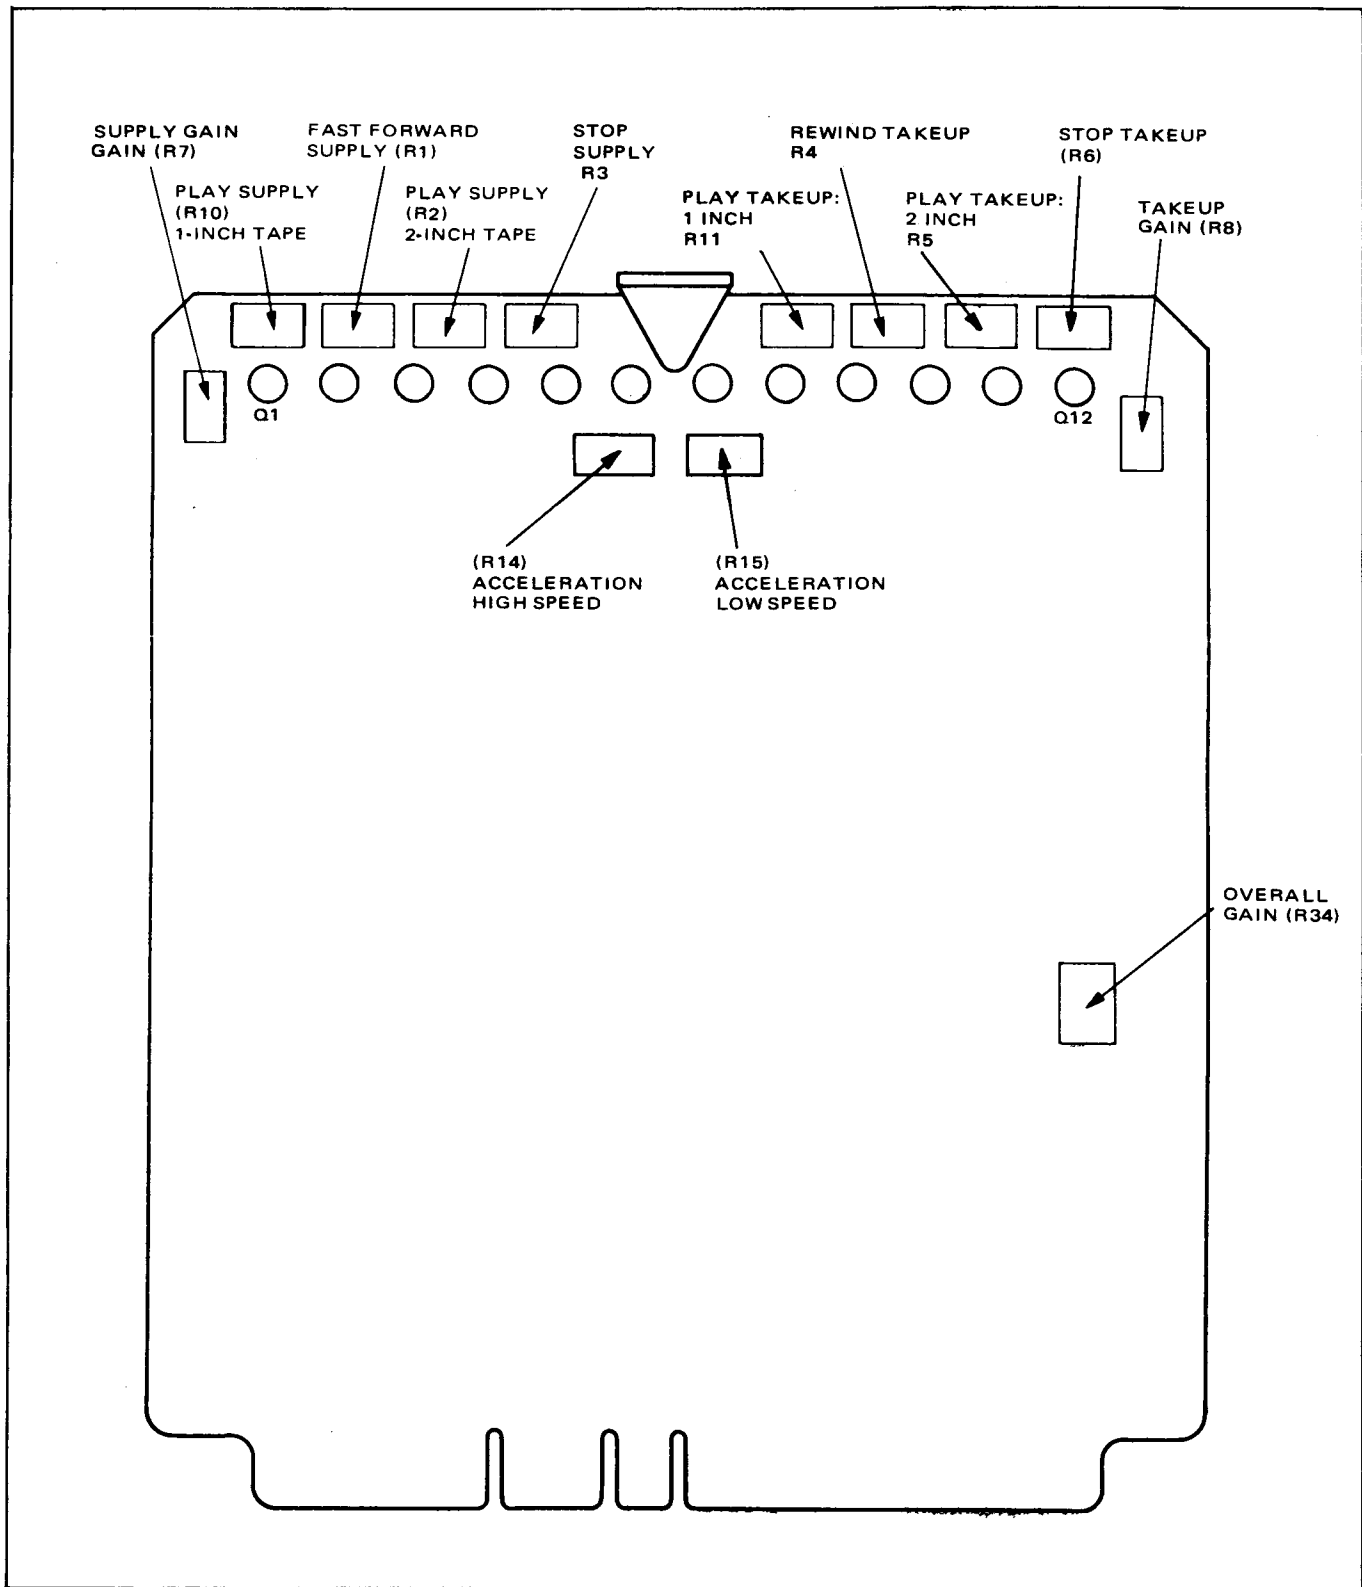
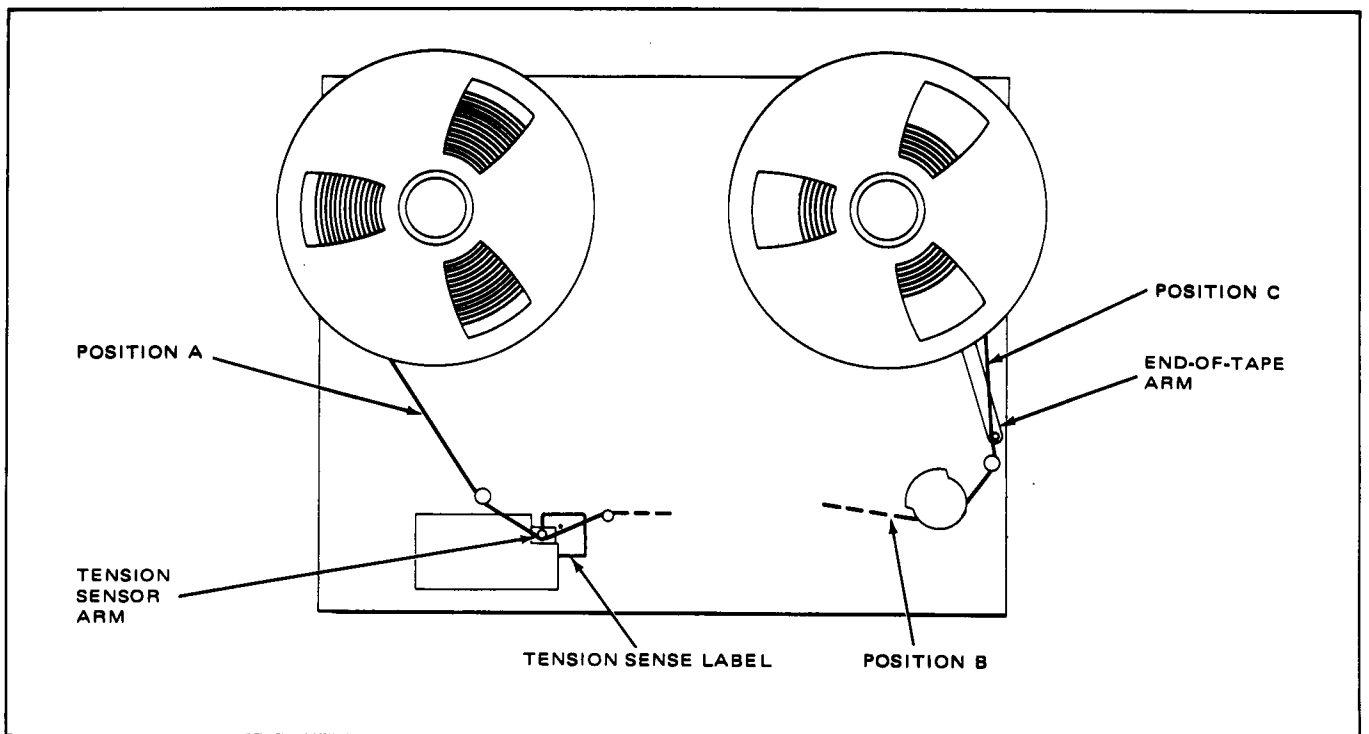

Figure 5-3. Transport Control PWA, Control Locations
Figure 5-5. Tape Tension Adjustments
2. Set the stop supply (R3) and stop takeup (R6) potentiometers on transport control PWA fully clockwise. See Figure 5-3.
3. Remove the transport control PWA (Figure 5-3) from its connector and reinstall it using an extender board, part no. 4050695-04.
4. Referring to Figure 5-3, position potentiometers R1 through R8 and R10 full counterclockwise; R14, R15, and R34 to mid-position.
The tension sensor arm is calibrated at the factory. If the position of the tension sensor arm (Figure 5-5) is changed, or the adjustment specified in step 2 of the following *Stop Tension* adjustment procedure cannot be achieved, perform the *Tension Sensor Arm Calibration* procedure, paragraph 5-17.
1. Thread a reel of tape onto the transport (see Figure 5-5), using the largest reel size expected to be used (up to 16 inches). Wrap only two turns of tape onto the takeup reel.
3. Insert the tape tension meter in position A as shown in Figure 5-5. Adjust R3 (Figure 5-3) for a tension indication of 6.5 ± 0.5 oz (two-inch tape) or 3.5 ± 0.5 oz (one-inch tape).
4. Insert the tape tension meter in position C as shown in Figure 5-5. Adjust R6 (Figure 5-3)
The above adjustments result in relatively high tape tension in the stop mode. If desired, for easier tape handling and editing purposes, R3 and R6 (Figure 5-3) may be adjusted so that the tension is approximately one-half of normal, or less, as indicated on the tape tension meter. Check that proper balance is maintained so that the tape does not tend to move in either direction during stop mode.
2. Insert the tension meter in position A as shown in Figure 5-5 and depress the PLAY pushbutton. Adjust potentiometer R2 (two-inch tape) or R10 (one-inch tape) for a tension indication of 6.5 ± 0.5 oz (two-inch tape) or 3.5 ± 0.5 oz (one-inch tape).
3. Insert the tension meter in position B as shown in Figure 5-5. Adjust potentiometer R5 (for two-inch tape) or R11 (for one-inch tape) for a tension indication of 12 ± 1 oz (two-inch tape) or 6 ± 1 oz (one-inch tape).